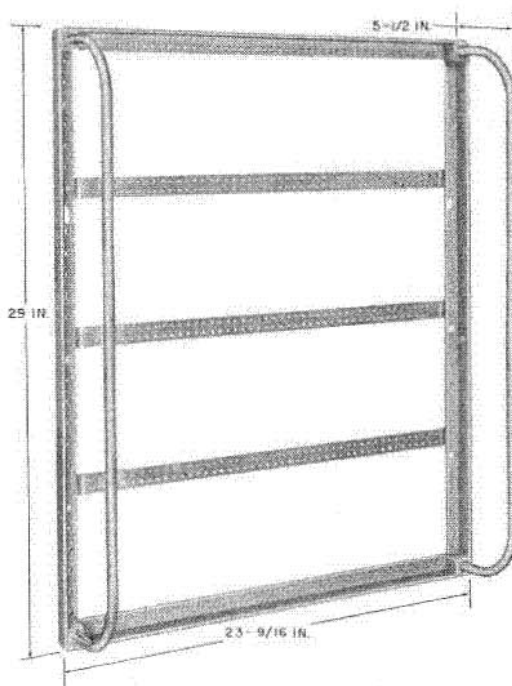

Fig. 7—26A Apparatus Mounting
3.04 The 26A apparatus mounting (Fig. 7) is a metal framework primarily used for panel-type 200-series KTUs. It is approximately twice the size of the 16-type apparatus mountings. The 26A may be mounted as follows: